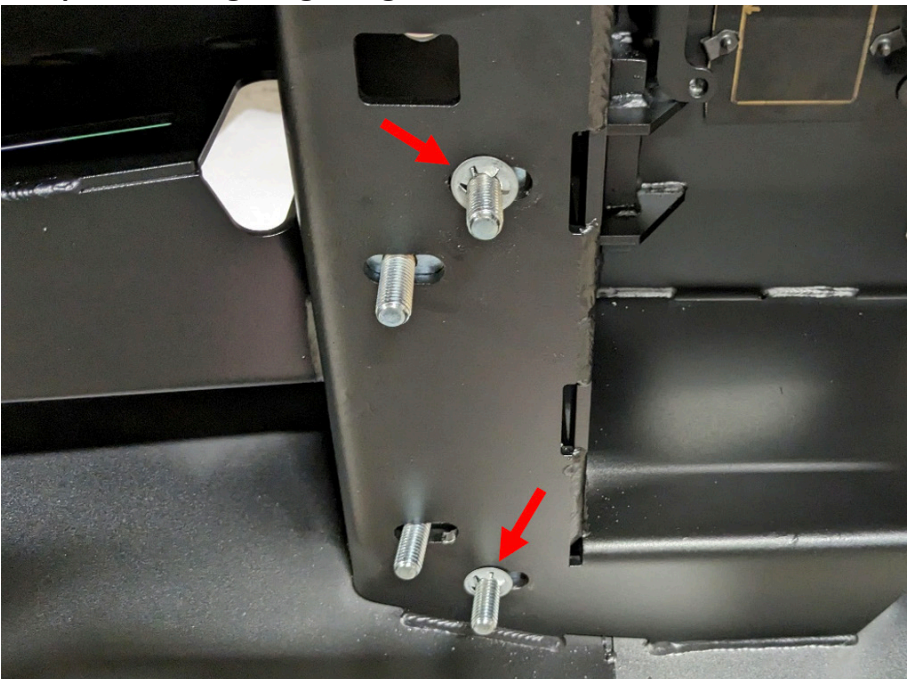

Figure 22
23. Using the four (4) provided 1/2" bolt retainers, install the four (4) provided 1/2" bolt strips into the bumper mounting flanges. Figure 22